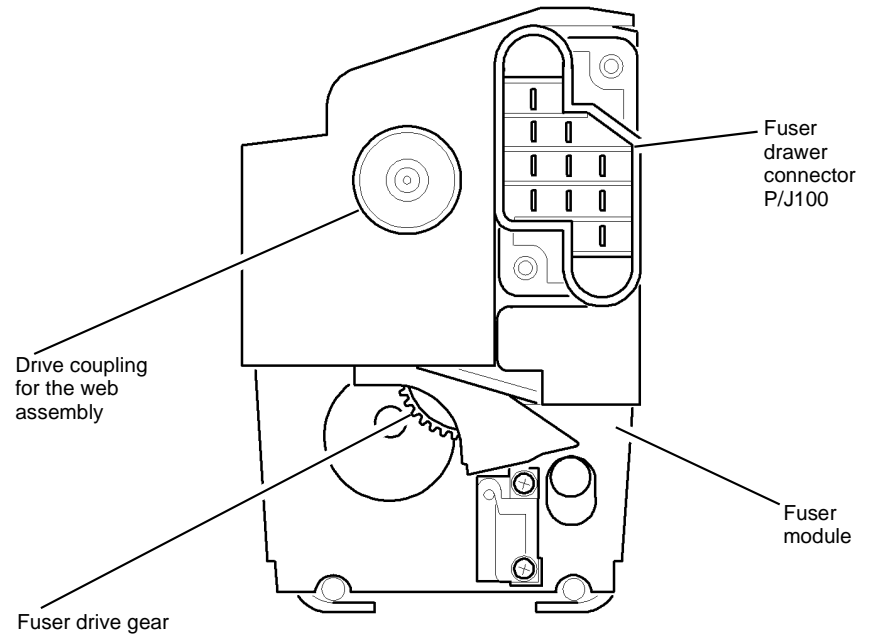

Figure 2 Component location
- Drive coupling on the web assembly, Figure 2.